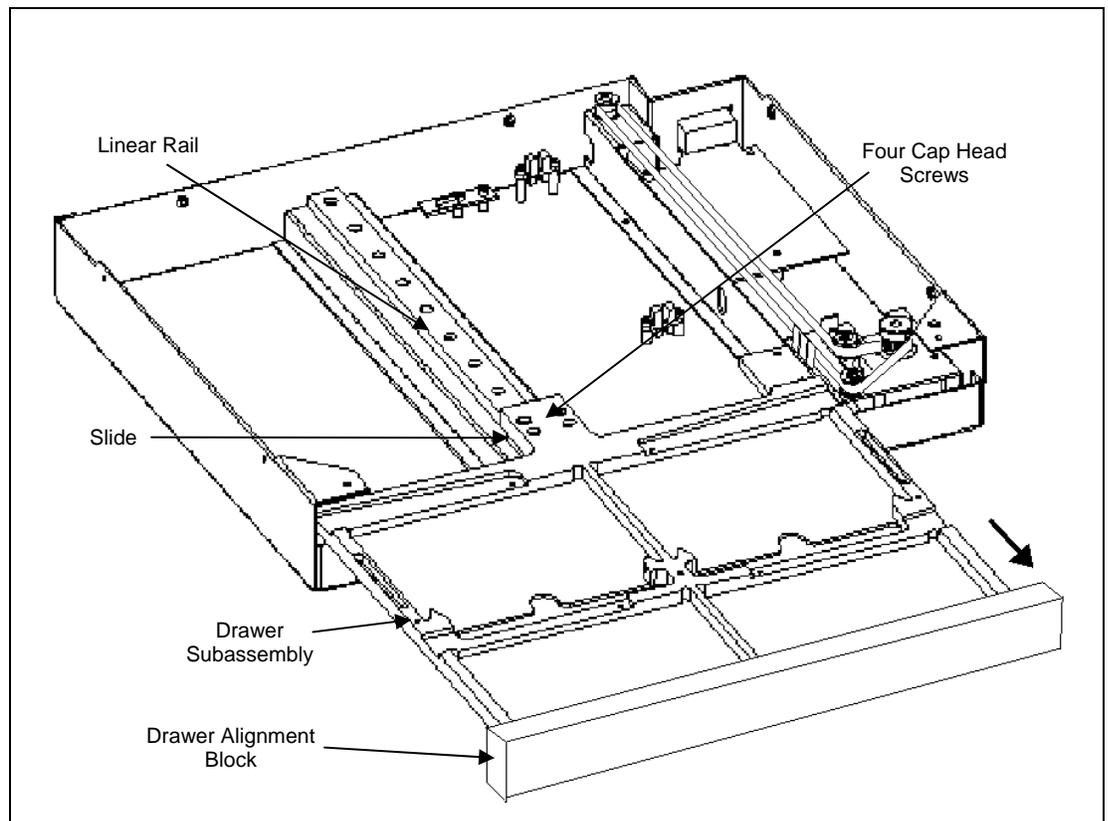

Figure 15-6 Ambient Drawer and Alignment Jig (Bezel not Shown)
- 2 Install the drawer alignment block (part of DMFIX010). Then push the drawer out until the front edge is flush with the block, as shown in Figure 15-6. If the drawer is not parallel to the alignment block, loosen the four cap screws that hold the drawer to the linear rail. Hold the drawer flush against the alignment block, then tighten the four screws.